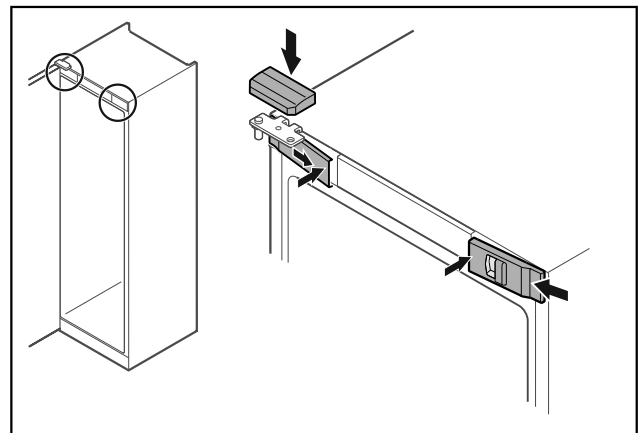

Fig. 48
- Hook in the front covers Fig. 48 (1) on the side and snap them into place on the inside.
- Snap on the top cover Fig. 48 (2) from above.